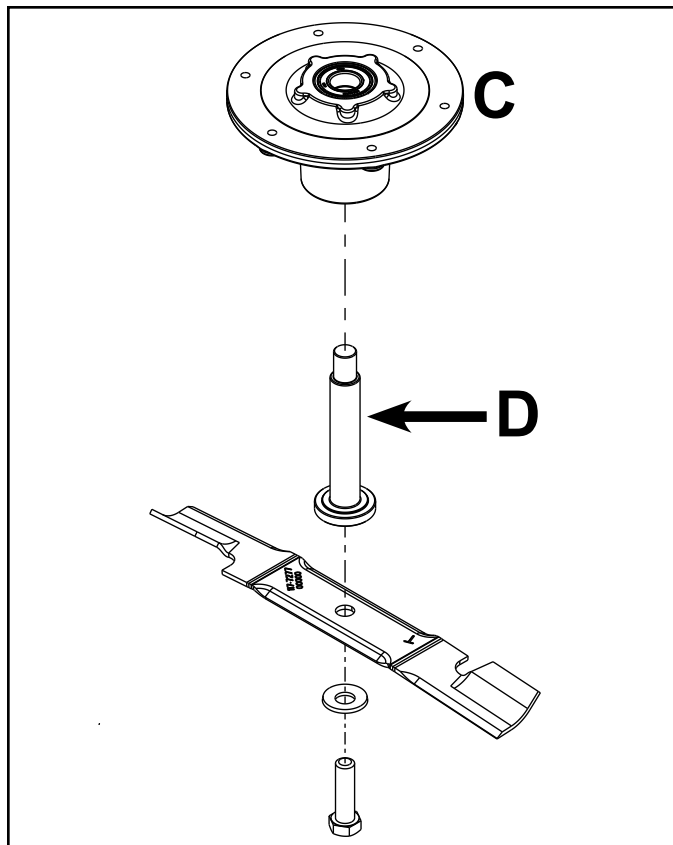

Fig. 114
3. Remove spindle shaft (D) from spindle assembly. Inspect for excessive wear and replace if necessary (Fig. 114).
4. Use an appropriate punch or bearing extractor to remove the (2) bearings (A) from the spindle housing.
5. Inspect bearing spacer (B) for wear and replace if necessary.
6. Clean and inspect spindle housing (C) bearing bores for excessive wear and replace if necessary.